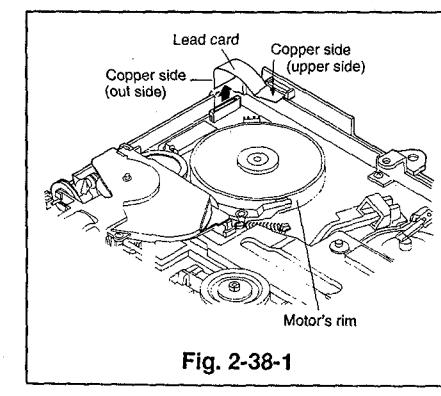
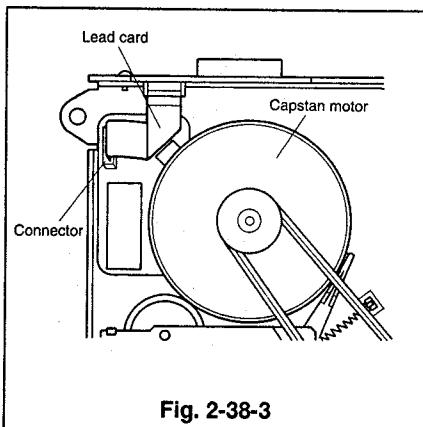

Fig. 2-38-1
Fig. 2-38-3
(Refer to Fig. 2-38-1.)
- ③ Bend the new lead card as shown in Fig. 2-38-3 and connect it to the connectors of the PCB of the capstan motor and the PCB-HA/AUDIO so that copper side appears as shown in Fig. 2-38-1. Take care not to touch the rotor of the capstan motor.
- ④ Install the reel belt.